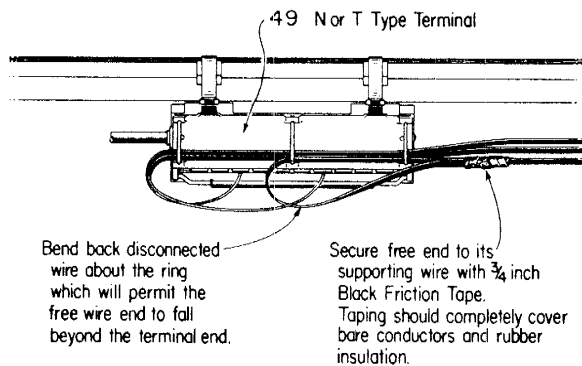

Fig. 11 — Strand and Cable Mounted Terminal
**7.01** Where B drop wire caps are not available, wire ends may be taped with friction tape in the manner indicated in Fig. 11 and 12. The method for disposing of disconnected wire at various types of terminals is similar to that covered in parts 3, 4, 5, and 6 for capped wire ends.